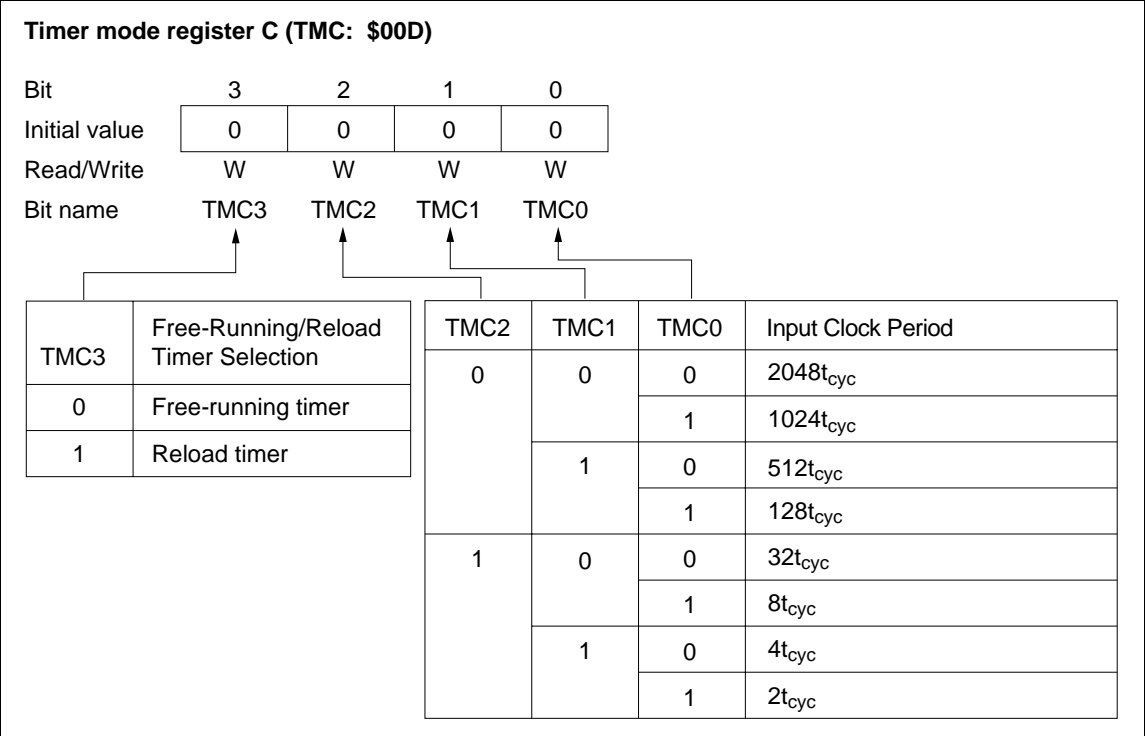

Figure 43 Timer Mode Register C (TMC)
- Timer mode register C (TMC: \$00D): Four-bit write-only register that selects the free-running/reload timer function, input clock source, and the prescaler division ratio as shown in figure 43. It is reset to \$0 by MCU reset.